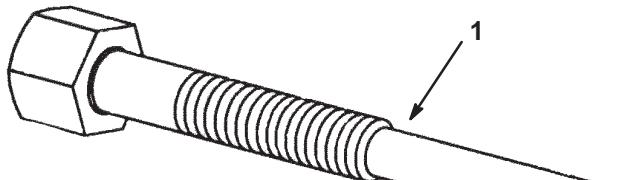

Figure 2
5. Grease the end of the clutch removal tool (Fig. 2).